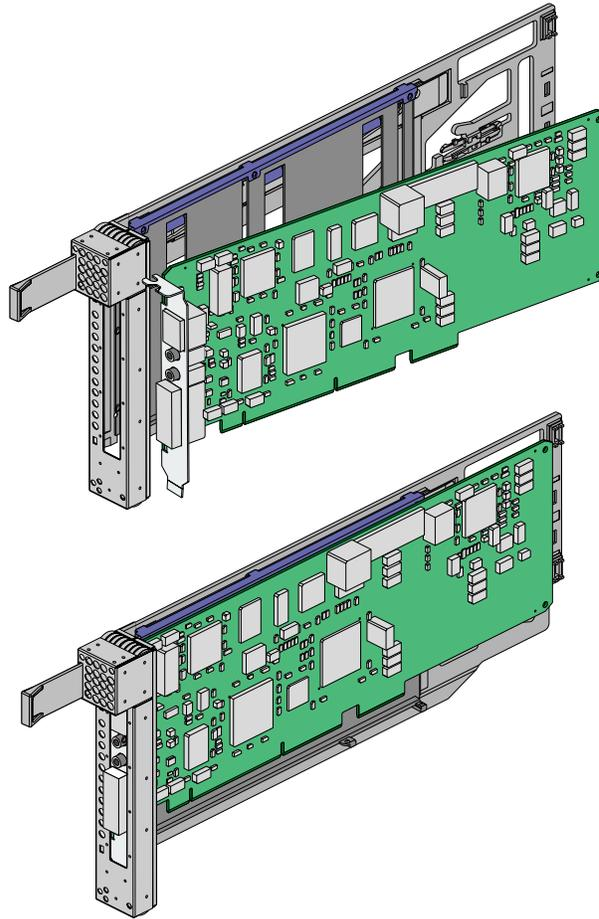

Figure 6-6 Mounting PCI Card Into Carrier
3. Mount your new or replacement PCI card into the carrier using the guides, as shown in Figure 6-6.